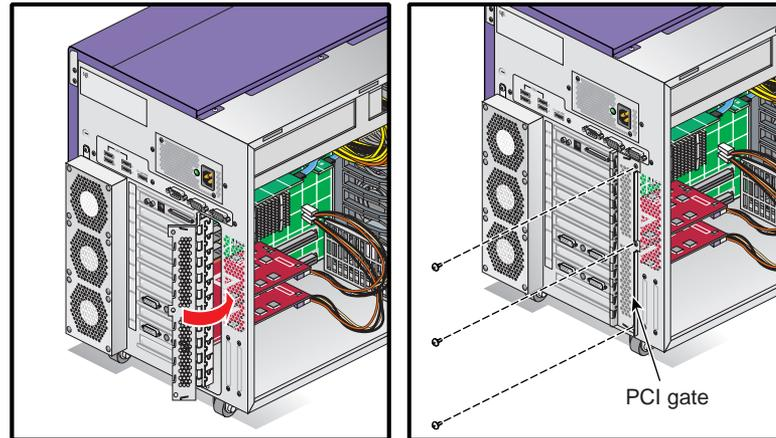

Figure 3-25 Closing the PCI Gate
6. Close the PCI gate. Then install the three screws that secure the PCI gate (see Figure 3-25).